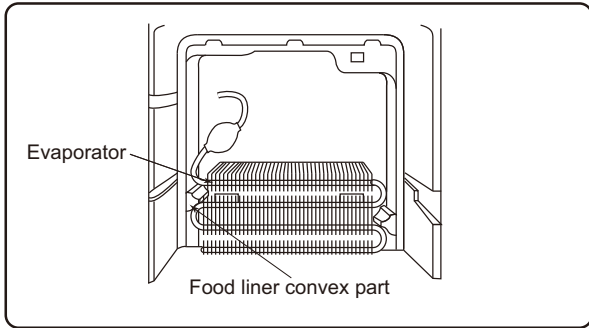
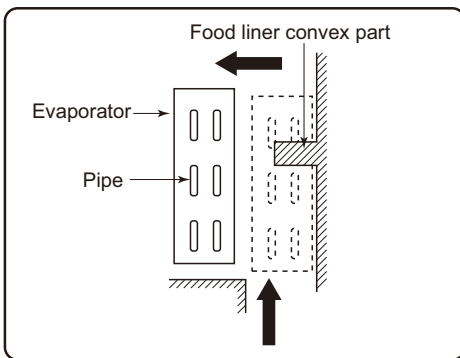

Figure A-15
Figure A-16
- 3) As shown in Figure A-16, pull the upper part of Evaporator toward you, pull it diagonally so that the pipe of Evaporator does not contact the convex part of food liner.
1. Install Evaporator as shown in the Figure A-15 in the reverse order of Figure A-16.